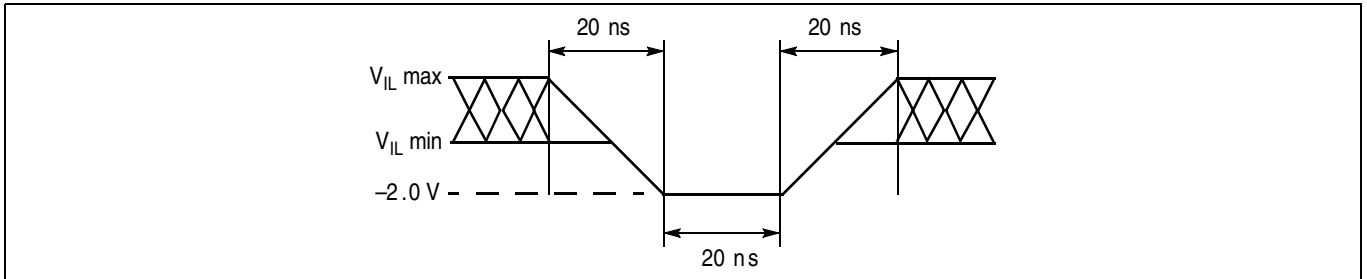
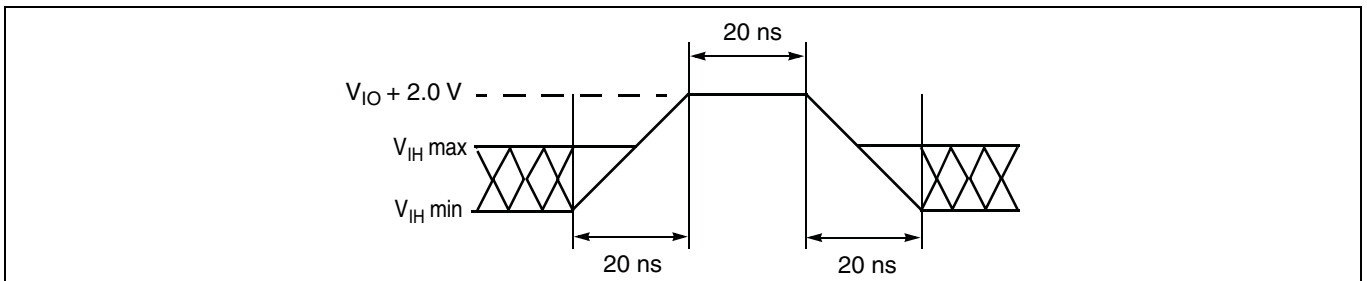

Figure 11 Maximum negative overshoot waveform
Figure 12 Maximum positive overshoot waveform
73. Minimum DC voltage on input or I/O pins is -0.5 V. During voltage transitions, input or I/O pins may undershoot V_{SS} to -2.0 V for periods of up to 20 ns. See Figure 11. Maximum DC voltage on input or I/O pins is V_{CC} + 0.5 V. During voltage transitions, input or I/O pins may overshoot to V_{CC} + 2.0 V for periods up to 20 ns. See Figure 12.